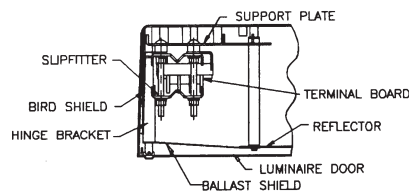

Figure 4
2. Adjust, if necessary, four (4) pipe clamp bolts so that slipfitter opening is slightly larger than pipe size being used (See Figure 4).